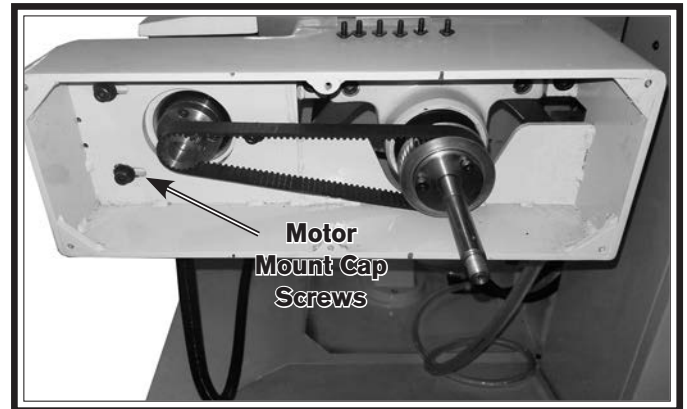

Figure 52. X-axis synchronous drive belt.
7. Loosen three motor mount cap screws (see **Figure 52**).